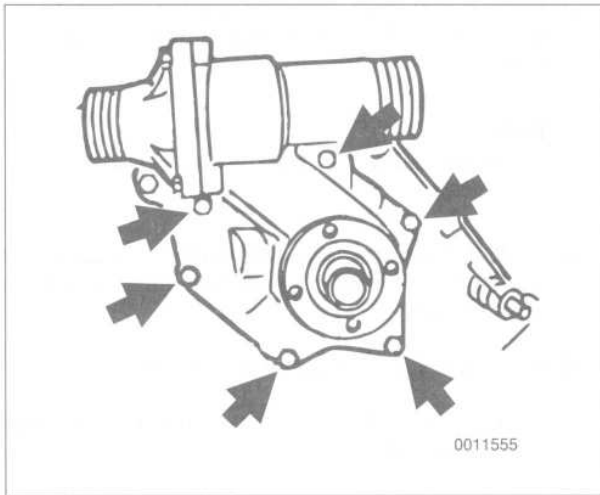

Fig. 15. Coolant pump mounting bolts (arrows) on M60 engine.
9. Remove coolant hoses from coolant pump/thermostat housing. Remove pump mounting bolts (qty. 6). See Fig. 15.